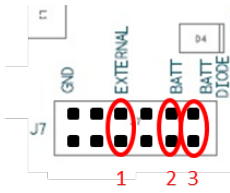

Figure 4: Power supply jumper positions of EVK-NINA-B1
Depending on the selected power source, and whether or not NFC will be used, you must fit the jumper on pin header J7 in one of the three different positions as shown in Figure 4.
1. To power the board from USB or external power supply, the jumper on J7 should be in position 1 as shown in Figure 4.
If you would like to utilize the flexible input voltage 1.7-3.6 V of the NINA-B1 module, the power source has to be connected to header J7. Connect the positive voltage to one of the pins - 1, 2 or 3 (bottom row in Figure 4) and connect the ground to one of the two pins marked "GND" in Figure 4.